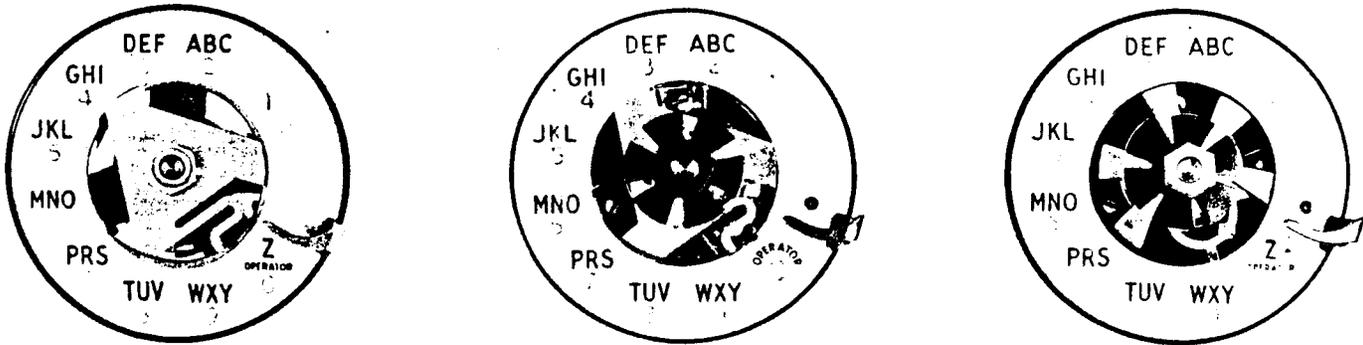

Fig. 10 — Clamp Plates Mounted on Dials
1. With dial in normal position, place fingerwheel clamp on dial hub so that spring portion is near digit 9 on number plate, as shown in Fig. 10.